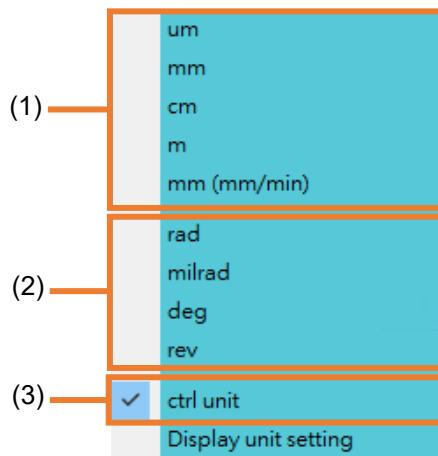

Figure 10.2.2.1
(1)	Setting for the proportion of conversion	Users can set the proportion of display unit conversion. The first line is for rotary unit; the second line is for linear unit.
(2)	Auto set	The proportion of display unit conversion will be automatically set based on Electronic gear ratio setting .
(3)	Activate setting	Activate the proportion of display unit conversion.
- Information (1) If the proportion of conversion is 0, the corresponding unit options (Figure 10.2.2.1) cannot be selected.
- (2) After clicking **Apply**, perform **Send to drive** to avoid losing the settings after servo drive is reset.